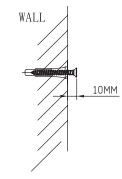

Figure 1
7. Insert screws into the rawl plugs, leaving approximately 10mm of the screw extended away from the wall (refer to Figure 1).